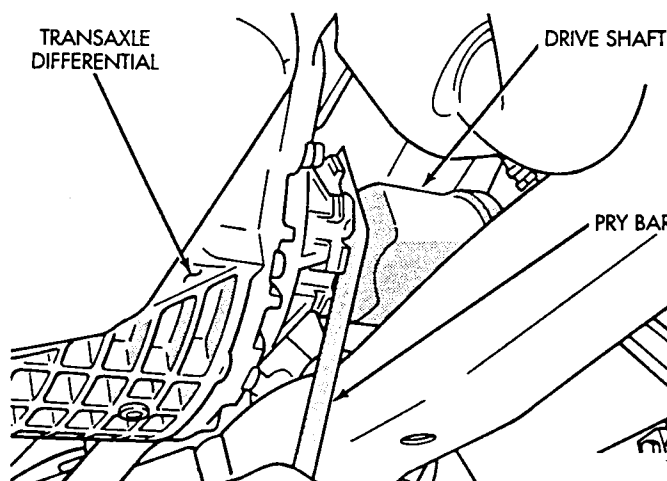

Fig. 4 Drive Shaft Removal
- (9) Using a pry bar, disconnect the inner CV joint from the transaxle (Fig. 4).